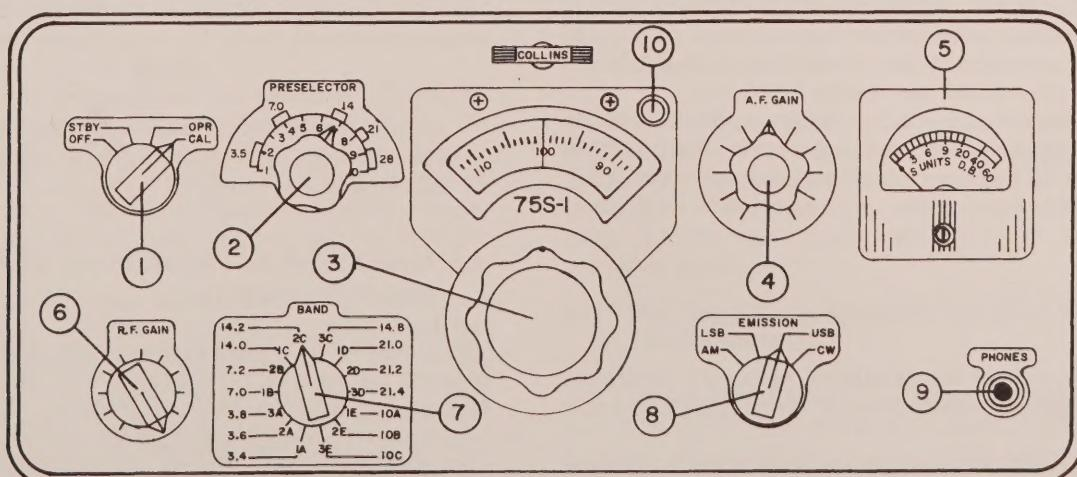

Figure 2-1. Panel Controls
- a. After making external connections, set controls as shown in figure 2-1.
- b. Set BAND switch (7) to desired frequency band. Set dial to 0, 100, or 200 with tuning knob (3).
- c. Adjust PRESELECTOR (2) for maximum signal or noise output.
- e. Adjust zero set knob (10) until dial is calibrated.
- a. Set controls as shown in figure 2-1, except set OFF-STBY-OPR-CAL switch (1) to OPR.
- b. Set EMISSION switch (8) to desired sideband.
- c. Peak PRESELECTOR control (2) for maximum signal or noise output.
- d. Tune in signal, and adjust A.F. GAIN (4) for desired audio output level.